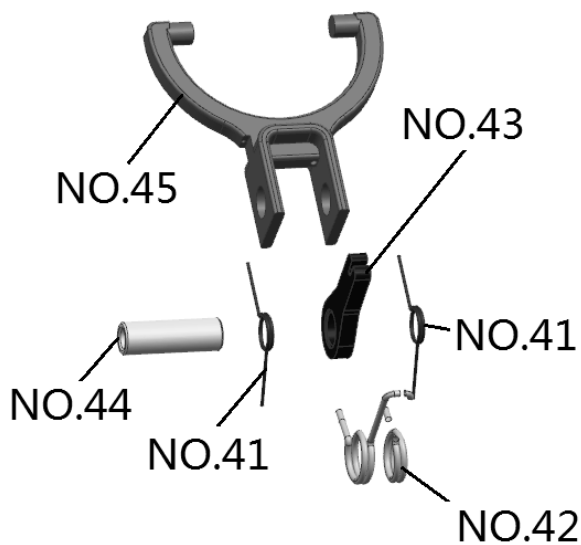

Fig 13
14. Inspect the shift lever (NO.43), shift level spring (NO.42), shift return spring (NO.41), shift yoke (NO.45), and lock shift bar (NO.44). Inspect the components for excessive wear or damage and replace as needed. → Fig 13
4. If previously removed; assemble the shift lever, shift lever spring, shift return springs, shift yoke, and lock pin bushing. → Fig 13